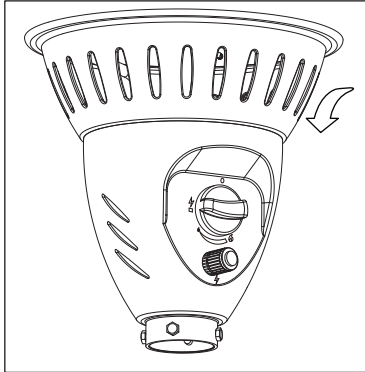

Figure 3
- Push in control knob and turn counterclockwise to “PILOT” () (Figure 3).